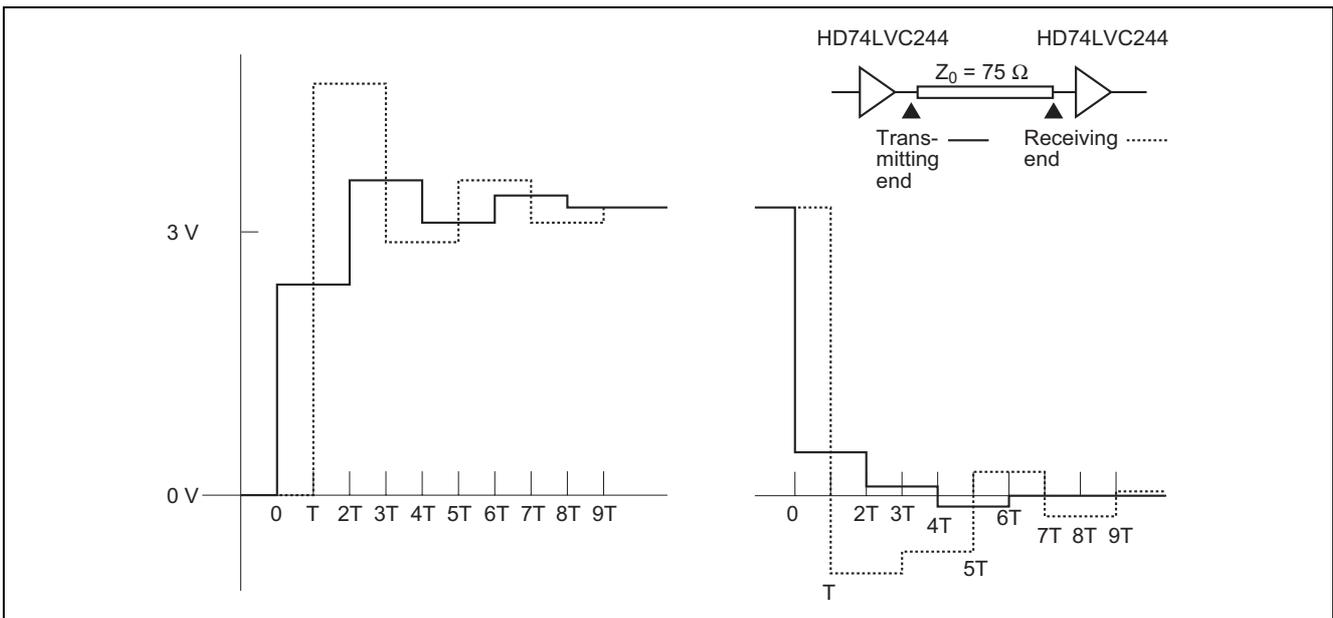

Figure 5-5-2 Analysis of Reflection Waveforms (Theoretical Waveform Plot)
8. Use the Bergeron diagram to plot a voltage time-series graph. Figure 5-5-2 shows the theoretical waveform plotted in this way.